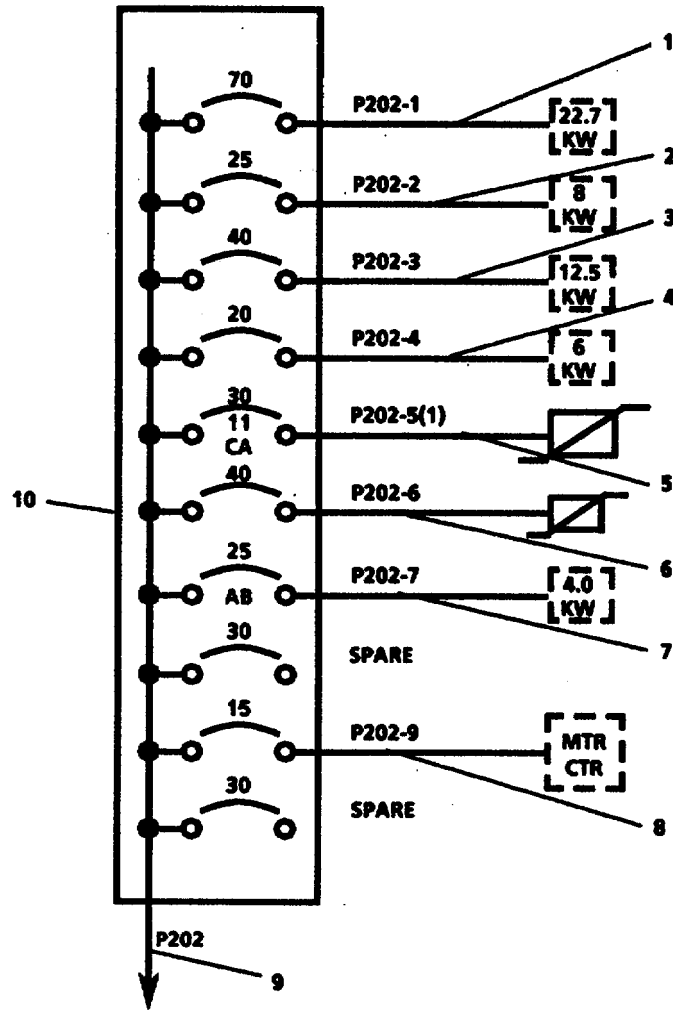

FIGURE 3-131. Power Distribution Panel (P203).
**3-145. Repair Power Distribution Panel P203. (Figure 3-131)**